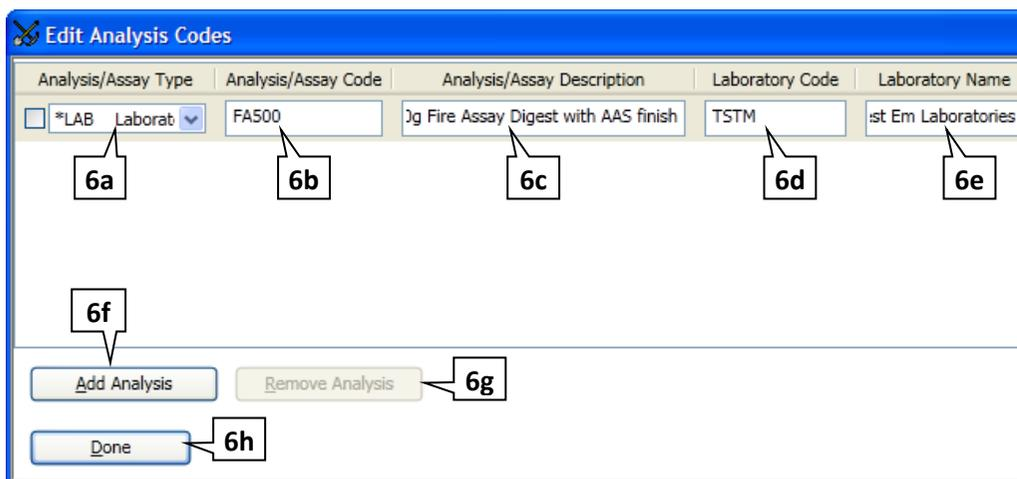

Figure 20 - Edit Analysis Codes Window
6. **Enter Analysis Codes** by pressing the **Edit Analysis Codes** button. These are details of the Lab Analysis methods and digests (Figure 20).
These are details of the Lab Analysis methods and digests (Figure 20).